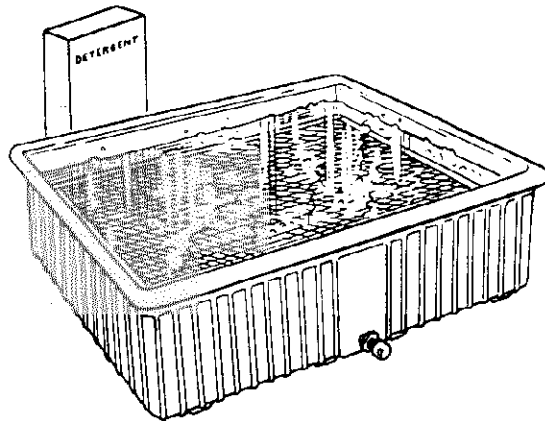

Figure 23
- a. Place enough hot water in a suitable wash container (figure 23) to cover the cell.